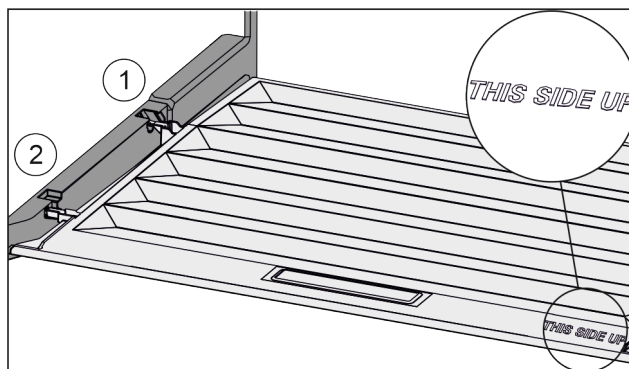

Fig. 140
- ▶ Insert the lip of the cover over the opening of the rear bracket Fig. 140 (1) and click into place Fig. 140 (2).